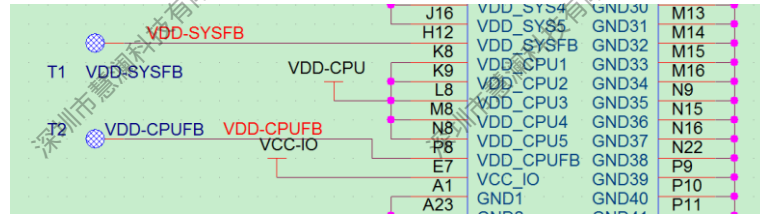

Figure 2-12 SoC Power Feedback Pin
- Suggest that VDD-CPUFB and VDD-SYSFB are retained the testing point and are placed close to the SoC pin to facilitate the voltage testing of the load side. As shown in Figure 2-12.